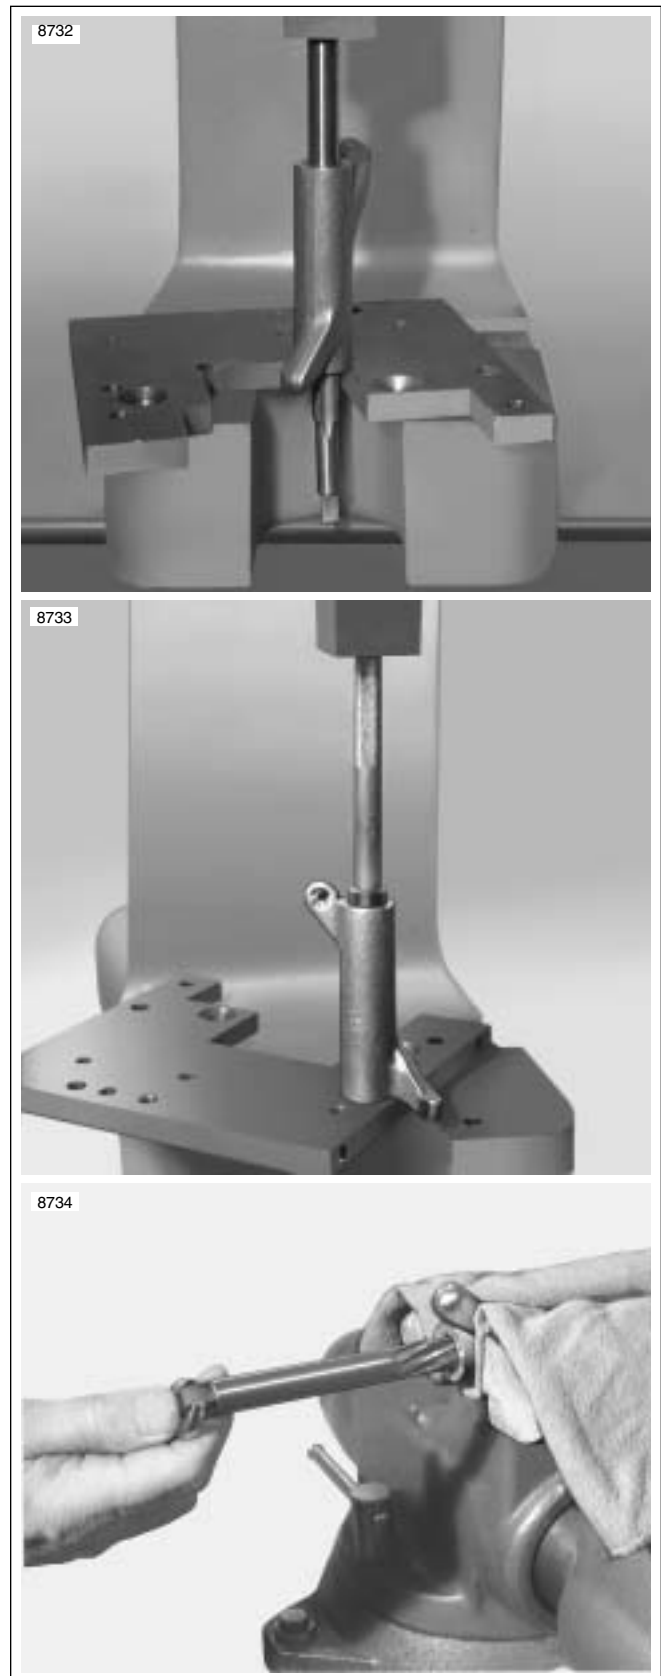

Figure 3-70. Replacing Rocker Arm Bushings
1. See Figure 3-70. To replace worn bushings, press or drive them from the rocker arm. If bushing is difficult to remove, turn a 9/16-18 tap into bushing. From opposite side of rocker arm, press out bushing and tap using a discarded rocker arm shaft.